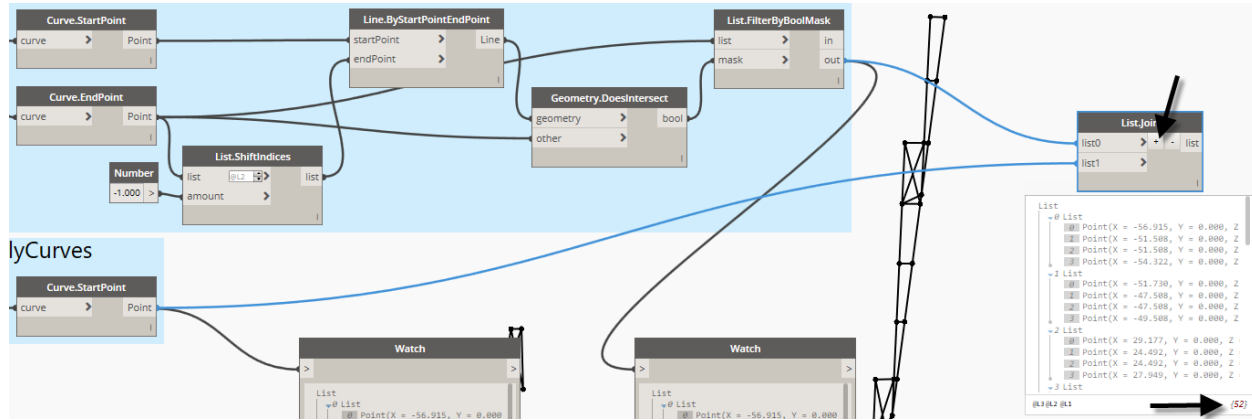

FIGURE 104
48. Wire the out port from the *BoolMask* in group 3 to the list0 input and the Point output of *Curve.StartPoint* from group 4 into list1 (see Figure 104).